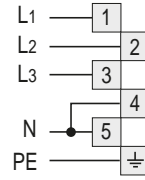
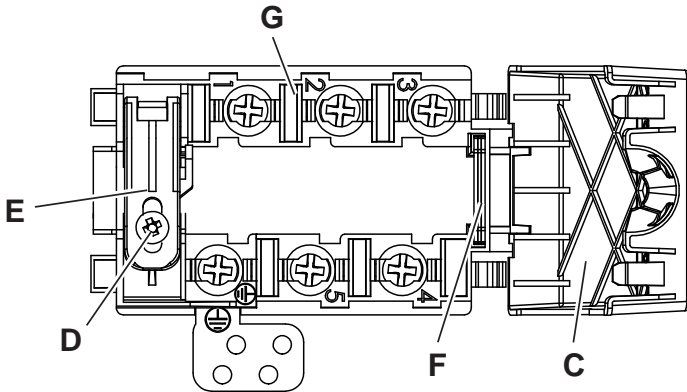

Fig. 2.2
Fig. 2.3
- Unscrew the screw “D” and open completely the cable clamp “E” (fig. 2.3).
- Position the U bolts “F” onto terminal board “G” (fig. 2.3) according to the diagrams in fig. 2.2.
- Connect the phase and earth wires to terminal board “G” according to the diagrams in fig. 2.2.